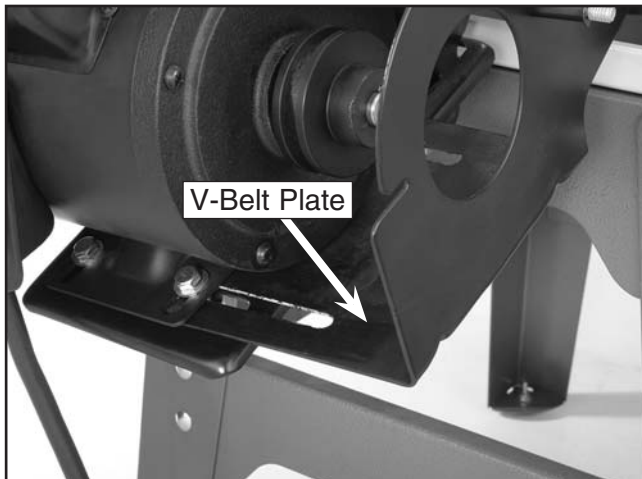

Figure 17. Installing the V-belt plate.
8. Slide the V-belt plate between the motor and motor plate as shown in **Figure 17**, and finger tighten the motor fasteners.